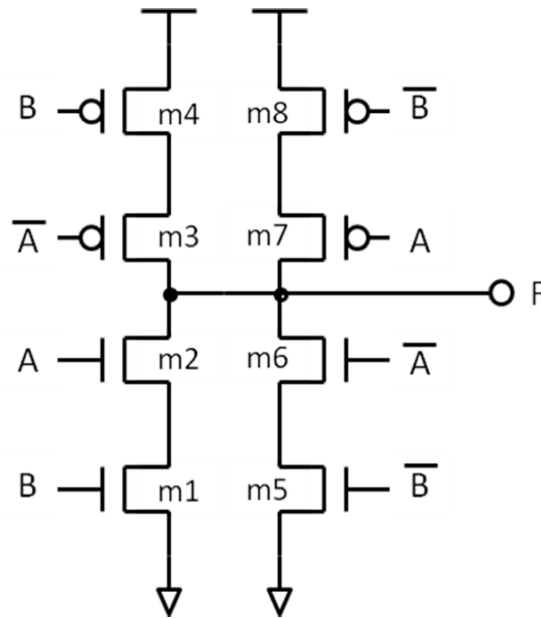

Figure 1 Complex gate.
- (3)  $V_M$  is the switch threshold at which the inverter's output reverses polarity. According to the R-V characteristic in Fig. 1,  $V_{AB} = 2V$  at when  $V_{in} = V_M$ . Therefore
- (1) Draw the truth table and determine the logic function of the complex gate shown in Fig. 1. (1 pt)